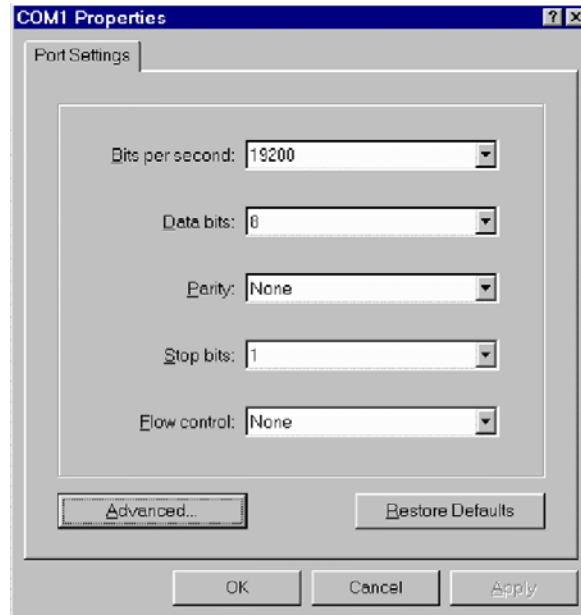

Figure 23. COM1 Properties window
- Configure your COM port settings as shown in figure 23, then click **OK**.